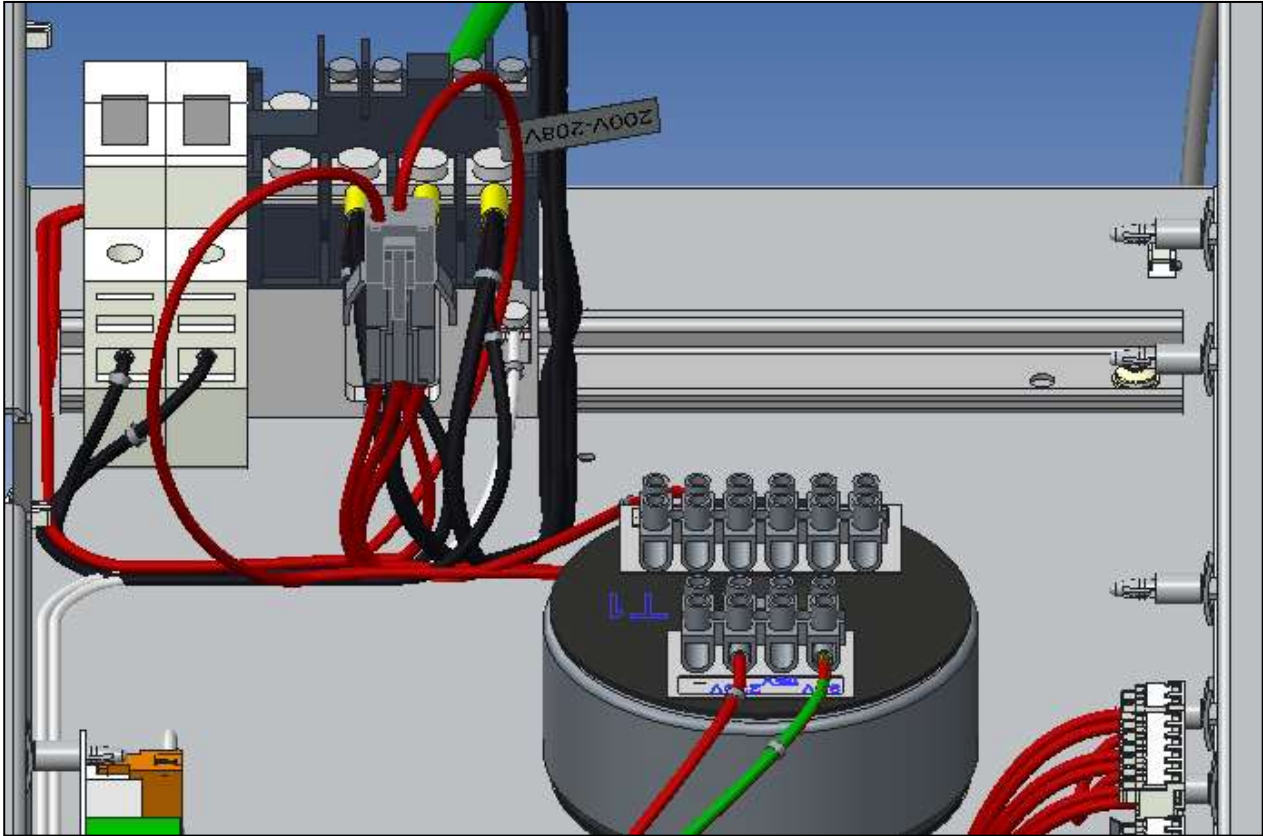

Fig. 3.8
- Connect the voltage selector switch (Fig. 3.8) in accordance with the mains power supply and the following table (Table 1).